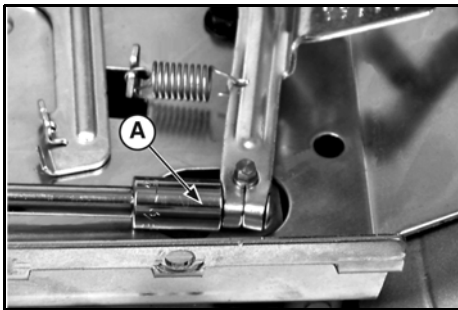
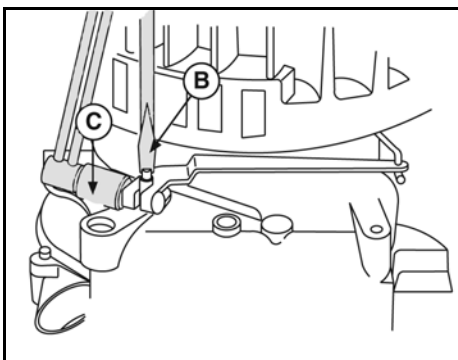

Figure 28
Figure 29
1. Loosen screw holding governor lever to governor crank (A, Figure 28) or (C, Figure 29).
3. While holding linkage at wide open throttle, use the appropriate tool to rotate the governor shaft (B, Figure 29) until it stops in the direction noted in Step 2.